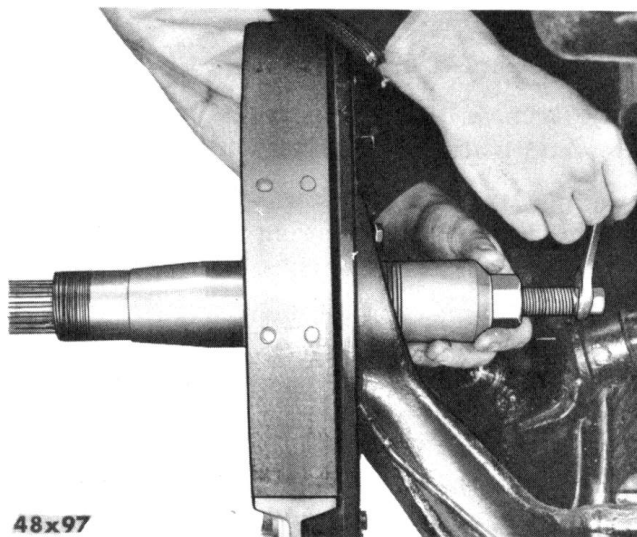

Fig. 105—Removing Rear Wheel Drive Shaft Large Seal
- (1) Using Tool DD-1135, remove oil seal, as shown in Figures 105 and 106.